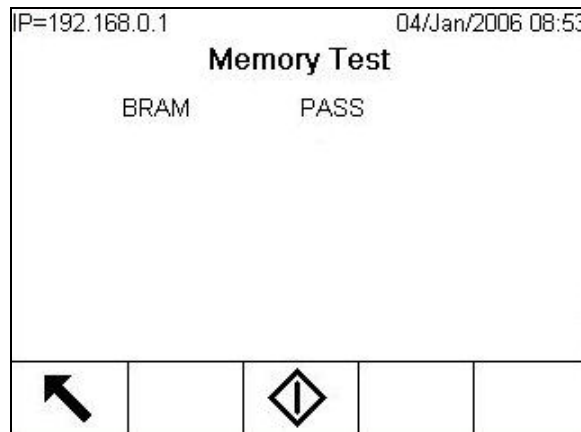

Figure 3-17: Memory Test Screen
- Memory Test (Figure 3-17)—To test the BRAM, press the START softkey. When testing is complete, press the EXIT softkey to return to the menu tree.